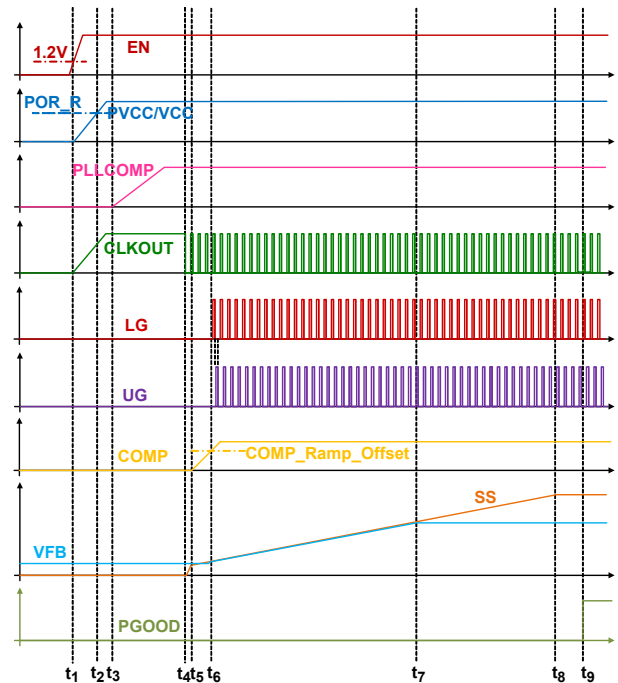

FIGURE 67. CIRCUIT INITIALIZATION AND SOFT-START
- There is no limit for the minimum voltage on the TRACK pin, but note the lower reference voltage and the lower voltage feedback regulation accuracy. Note the SS_DONE signal is checking $V_{REF_TRK} \geq 0.3V$ as one of the conditions (refer to t_g - t_g description on page 31 and Figure 67 on page 30). Also, for the boost converter, the regulated output minimum voltage is usually the input voltage minus the upper MOSFET's body diode drop, in which case, the corresponding voltage at FB voltage is the minimum effective voltage for the V_{REF_TRK} and V_{REF_DAC} .
Prior to converter initialization, the EN pin voltage needs to be higher than its rising threshold and the PVCC/VCC pin needs to be higher than the rising POR threshold. When these conditions are met, the controller begins initialization and soft-start. Figure 67 shows the ISL78229 internal start-up timing diagram from the power-up to soft-start.
Assuming input voltage is applied to the VIN pin before t_1 and VCC is connected to PVCC, as shown on Figure 67, the descriptions for start-up procedure is elaborated in the following:
Diode emulation occurs during t_5 - t_8 (on Figure 67 on page 30), regardless of the DE/PHDRP operating modes (Table 2).